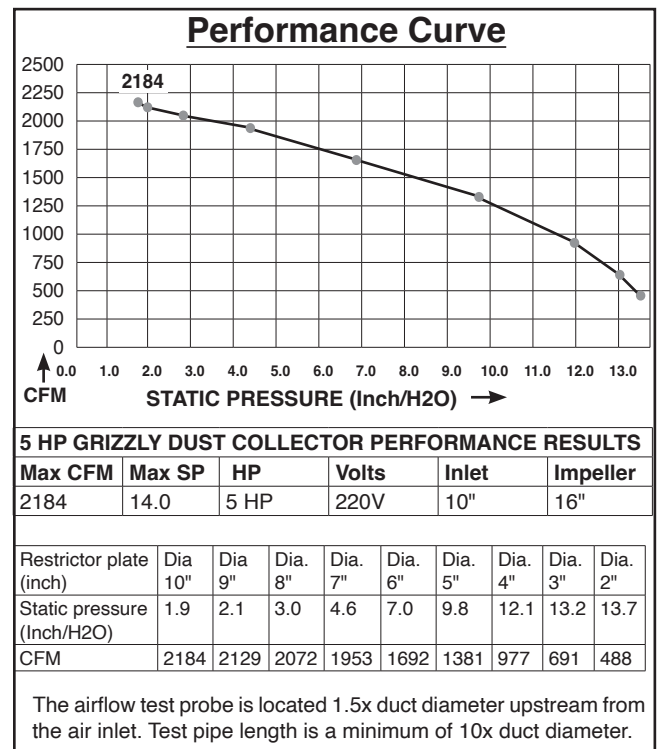

Figure 62. G0442/G0601 performance curve chart and data.
5. Compare the total static pressure loss for that line to the closest CFM given in **Figure 62**.
Example: The G0442/G0601 **Data Sheet Performance Curve** is illustrated in **Figure 62**. Find 4.6 on the Static Pressure axis (the amount of total static pressure loss calculated in **Figure 62**), then refer to the closest value on the CFM axis—approximately 1953 CFM.